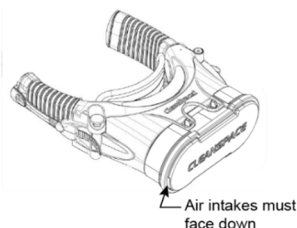

Figure 31 – HE + Nuisance Filter Orientation
- **If using PAF-1108 HE + Nuisance filter, check that it is the right way up, with the air openings at the bottom.** (The "CleanSpace" text on the cover of the filter must be the right way up when you are wearing the respirator). See Figure 31.